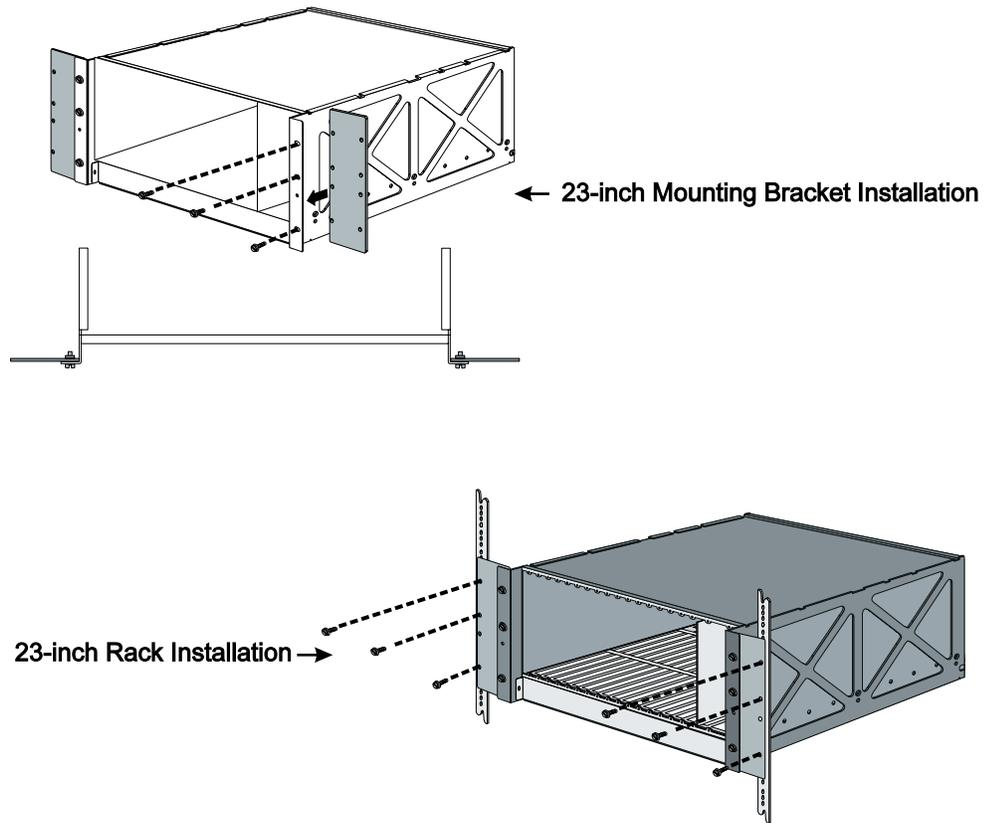

Figure 8. Typical 23-inch Equipment Rack Installation
- 1** Using the bolts that came with the brackets, fasten them to the chassis mounting flanges. See Figure 8.